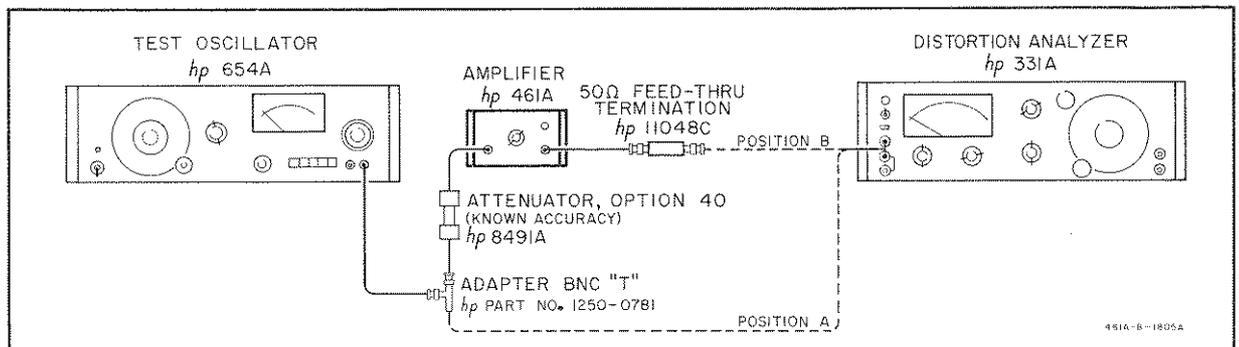

Figure 5-2. Distortion Check Setup
- a. Connect the 461A as in Figure 5-2, with the Distortion Analyzer connected as in position A.
- e. Measure the distortion of the oscillator (Figure 5-2, position A).
- f. Connect the Distortion Analyzer as in Figure 5-2, position B.